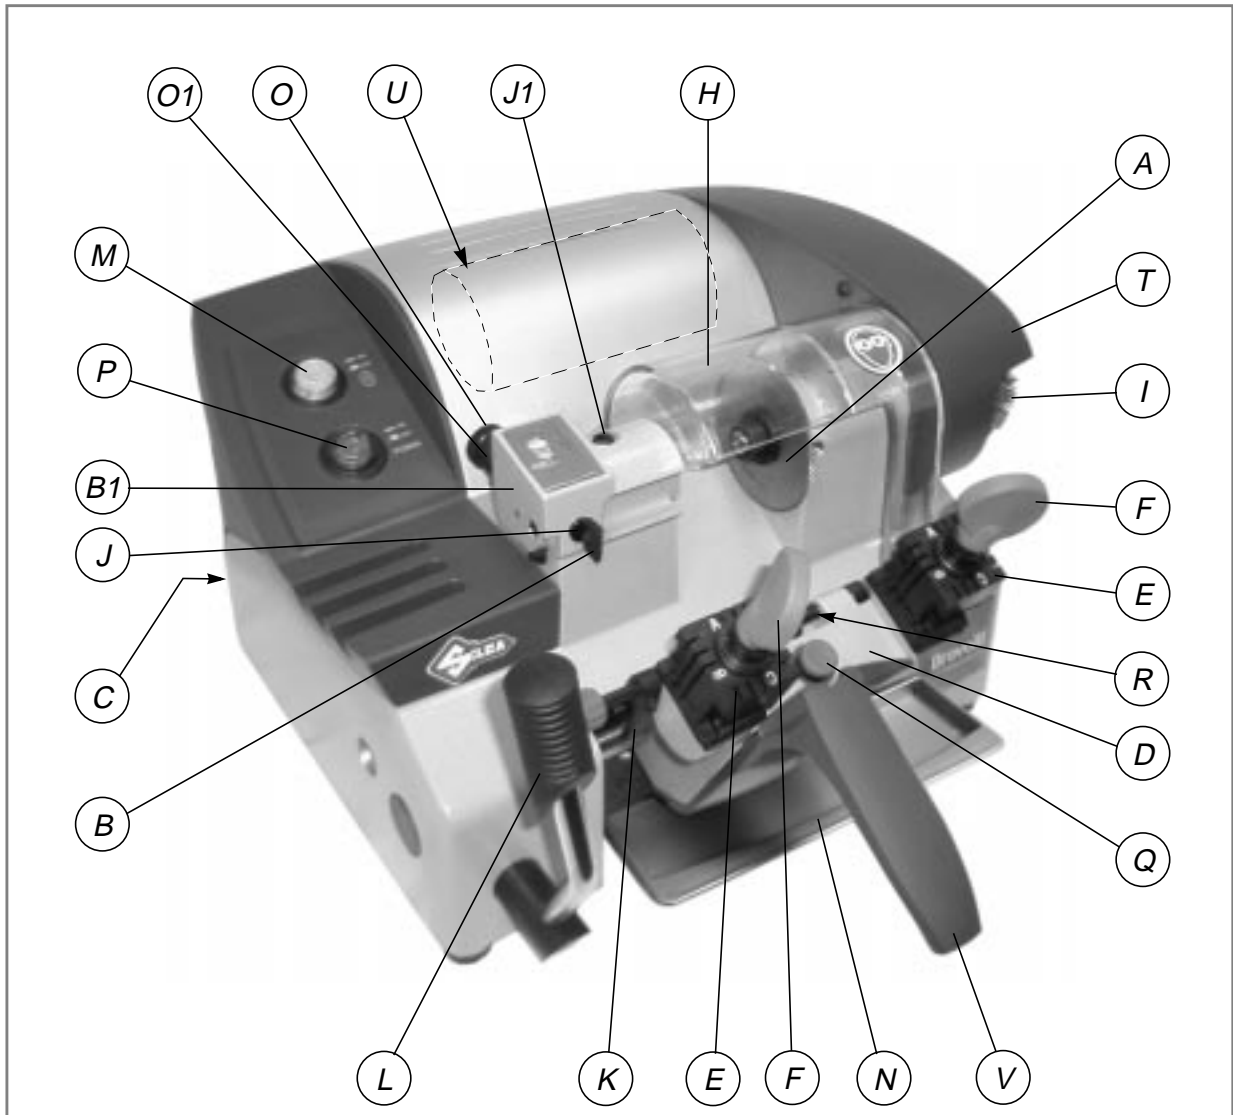

Fig. 5
The control panel with 2 controls is located on the left-hand side of the BRAVO III key-cutting machine: the start-up switch for the motor (P) and the push button for the brush (M) (fig. 5, page 6).